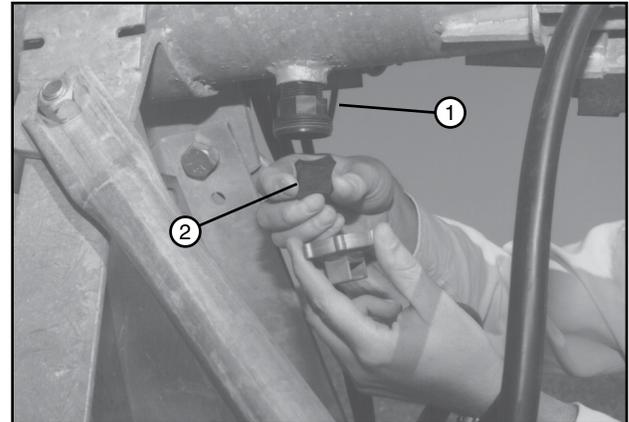

Figure 89-1 1. Pipe Drain
3. Remove the pipe drains at each drive unit tower. Clean sand and foreign particles from these drains. Turn the rubber drain seal over when reinstalling. See Figure 89-1.